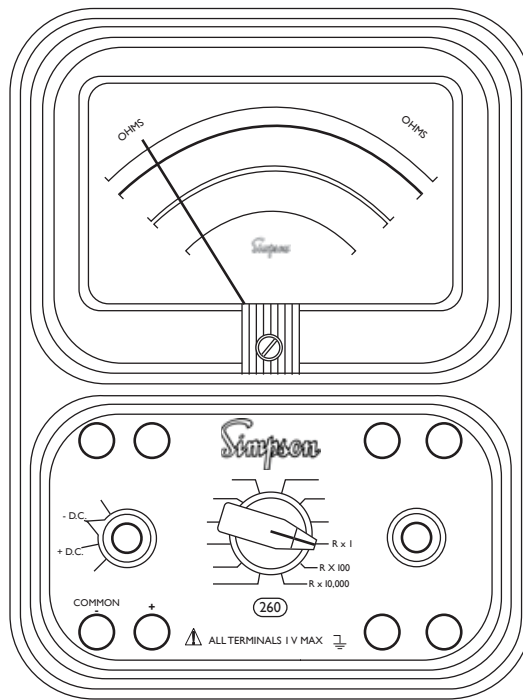

FIGURE 4-12. Jacks and Switch Positions for Measuring Resistance
- b. Set the range switch to one of the resistance range positions as follows (Figure 4-12):